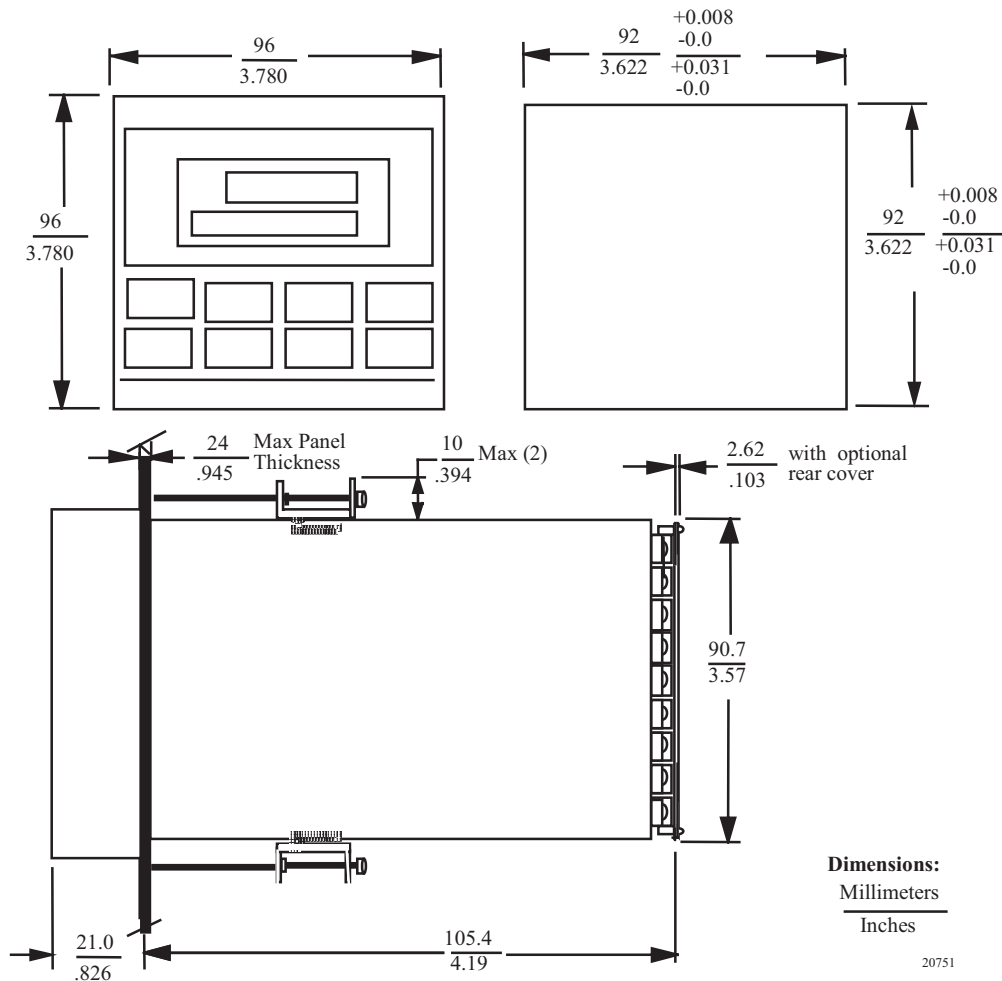

Figure 2-3 Mounting Dimensions (not to scale)
- Overall dimensions and panel cutout requirements for mounting the controller are shown in Figure 2-3.
1	Mark and cut out the controller hole in the panel according to the dimension information in Figure 2-3.